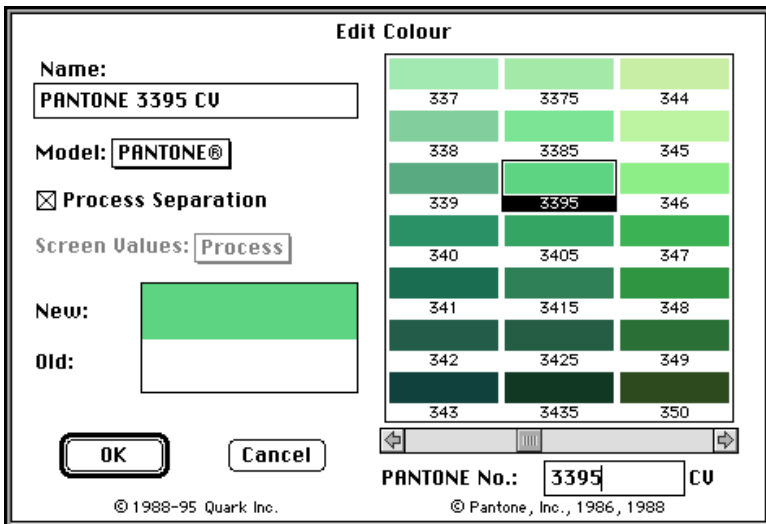

Fig. 21: Defining a Pantone color with the **Edit Colour** dialog
- Select **Pantone** from the **Model:** pop-up menu as shown in figure 21.